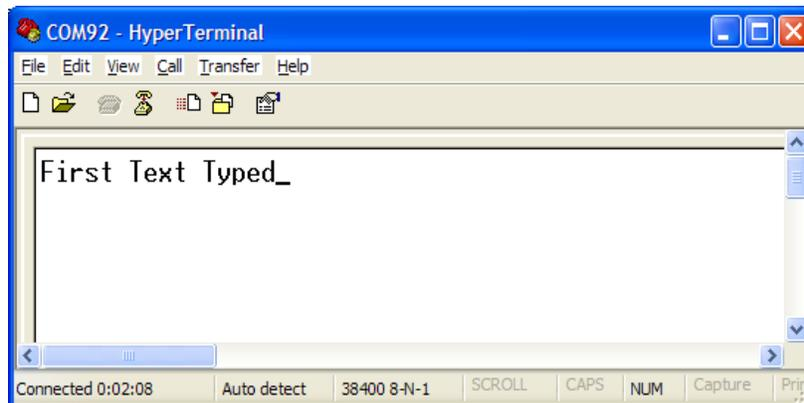

Figure 5-24. Text Echoed in Second Hyperterminal Window
2. The typed text is displayed as output in the second Hyperterminal as shown in Figure 5-24